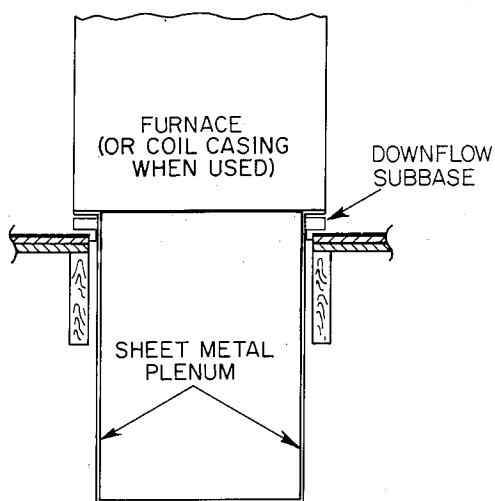

Figure 6—Furnace, Plenum, and
- When completed, downflow subbase, plenum, and furnace (or coil casing when used) should be installed as shown in Figure 6.